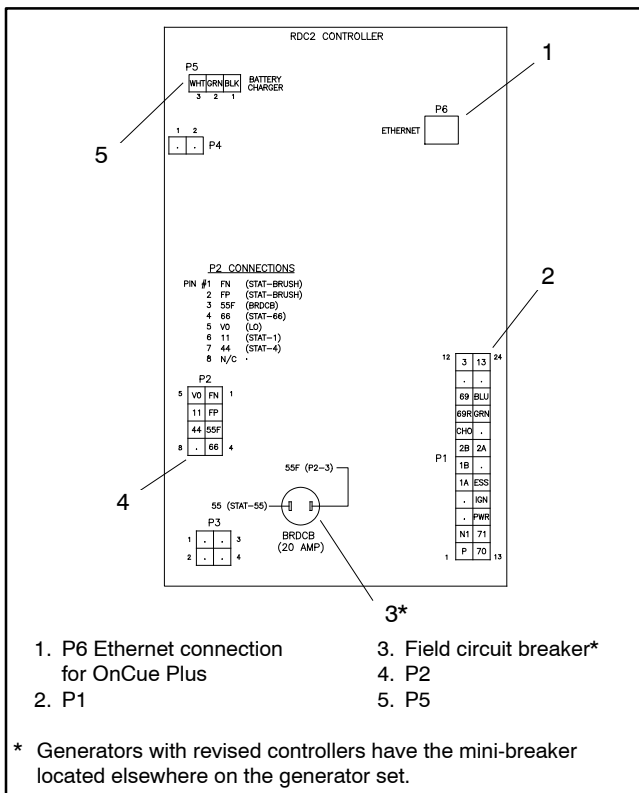

Figure 4-11 Controller Connections
6. Note the connections on the back of the controller, and then disconnect all harnesses and leads from the controller. See Figure 4-11 or the wiring diagram.